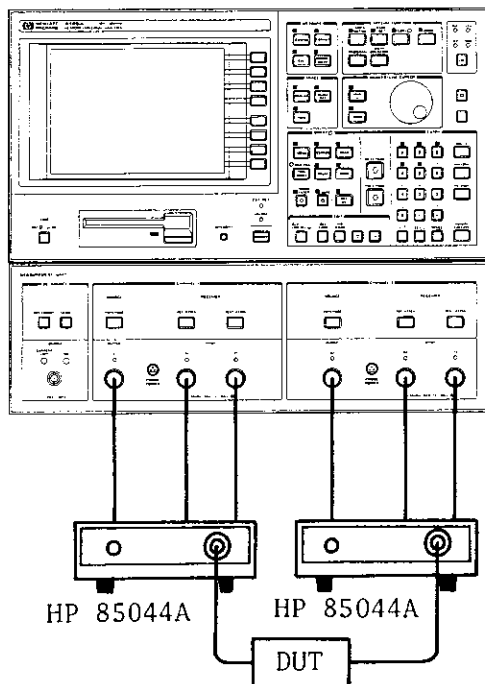

Figure 3-3. S-parameter Configuration Setup Example
1. Connect two Transmission/Reflection Test Sets (two HP 85044As) to the 4195A's front panel output/input connectors as shown in Figure 3-3.